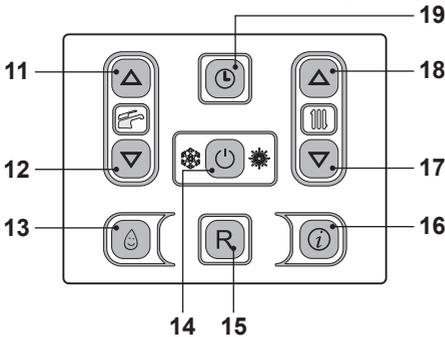

Fig. 2.13
Enter “programming mode” by holding down keys 18 and 19 for 5 seconds (Fig. 2.13).
Press keys 11 or 12 (Fig. 2.13) to select individual days 1, 2, 3, 4, 5, 6, 7, or if you want to select a group of days, hold down key 11 until groups (1-5) (1-6) (1-7) (6-7) are displayed (flashing), then confirm by pressing key 14.